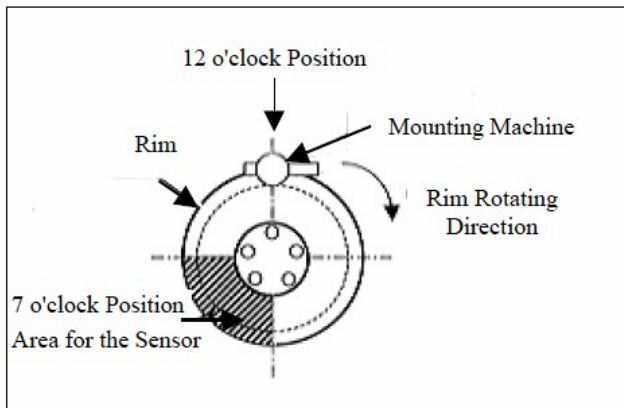

Figure 9
- (d) Position the wheel on the mounting machine with the sensor at ~ 7 o'clock position (Shaded area in Figure 9).
(1) Mount/dismount head is considered as 12 o'clock Position.
(2) Mount the lower tire bead.